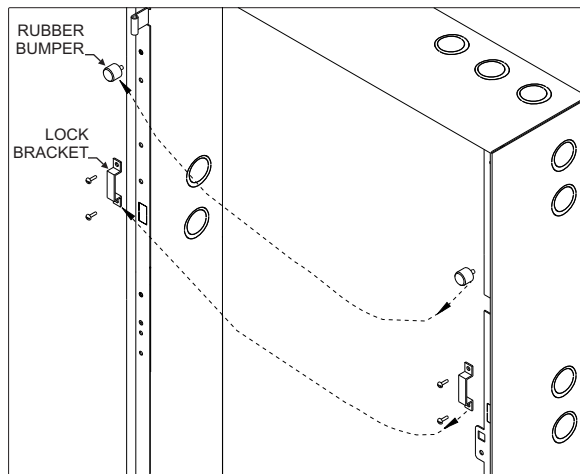

Figure 5
3. On the right side of the backbox, remove the rubber bumpers and lock bracket(s). Reinstall the rubber bumpers and lock bracket(s) on the left side of the backbox. (Refer to Figure 5.)